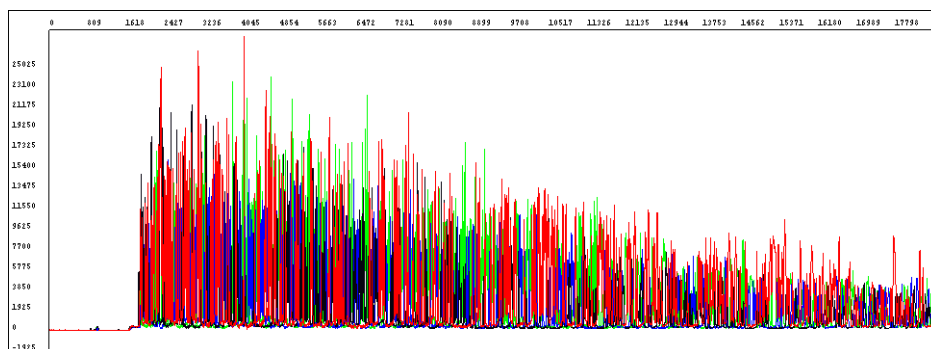

Figure 35 Example of high quality raw data with tightly resolved peaks from the 3730 Genetic Analyzer
- **Peak heights** – Are peaks well-resolved, with reasonable heights (Figure 35)? For examples of low or no signal, see pages 207 through 211; for examples of top-heavy data, see pages 222 through 225.